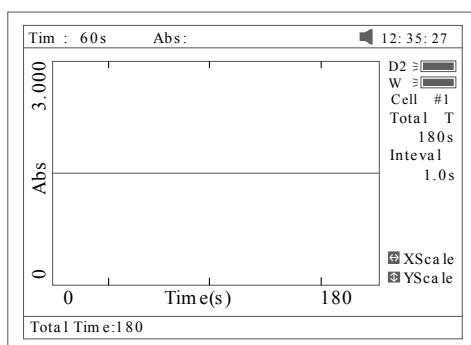

Fig 54
1. Press [F1] to set “Total Time”, “Delay Time”, “Time interval”, and input the value by pressing the numeric keypad (Fig 54).